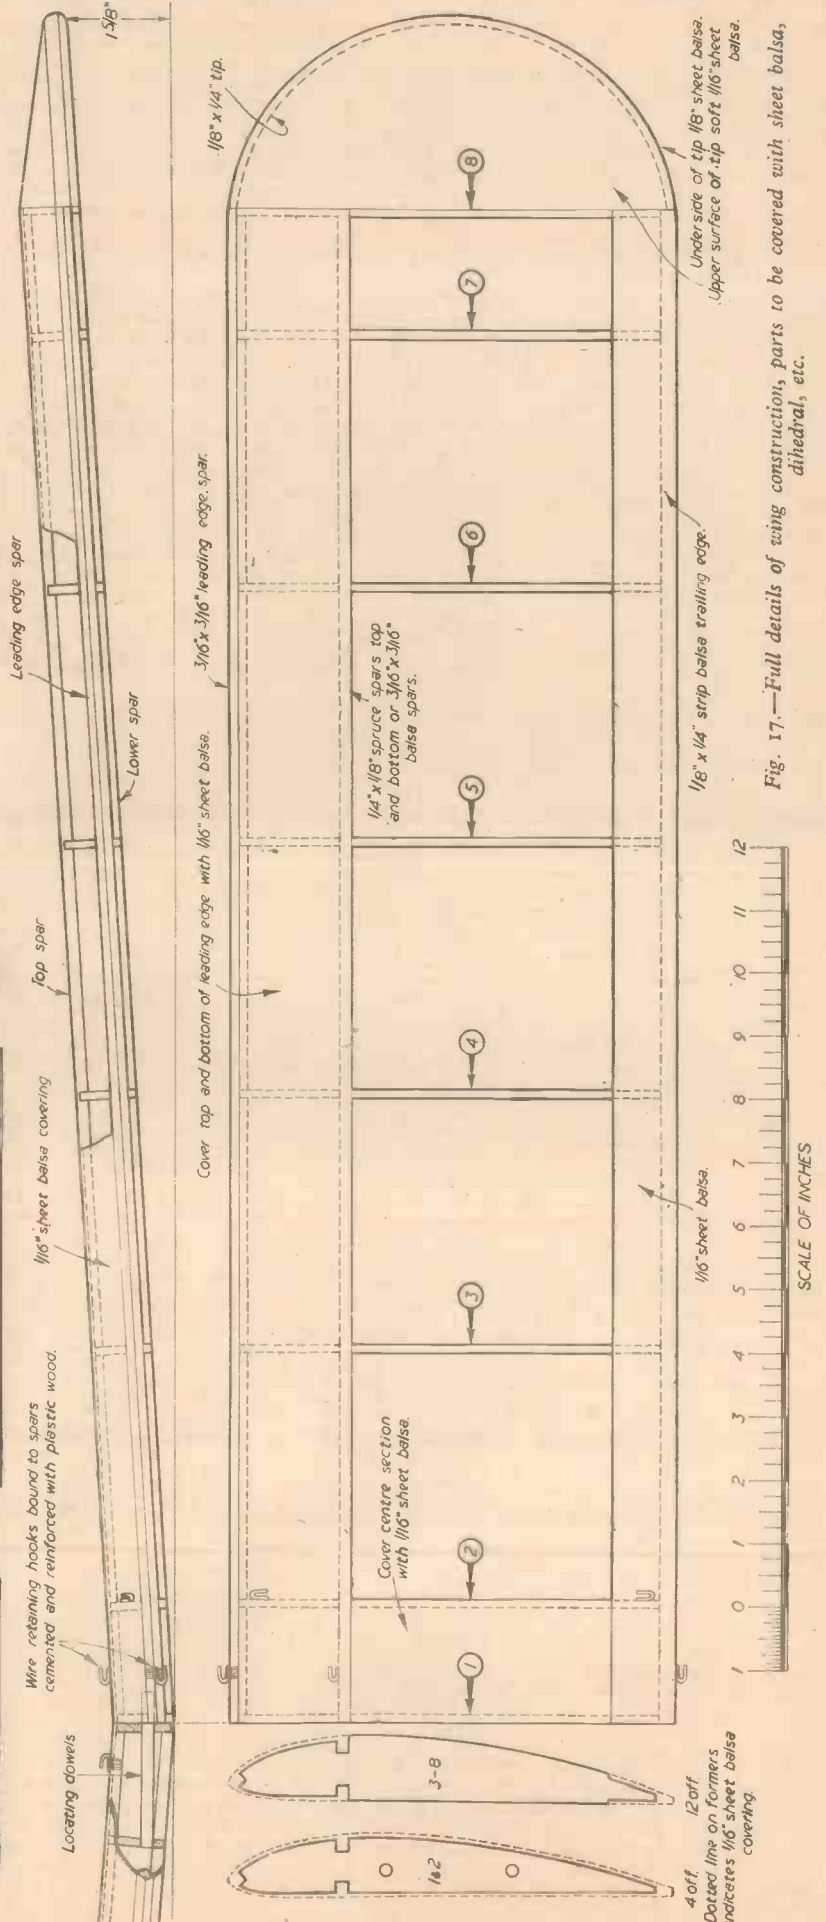

Fig. 17.—Full details of wing construction, parts to be covered with sheet balsa, dihedral, etc.
**F**IG. 12 shows how the wings are built on the full-scale plan (scaled up from Fig. 17) and covered with grease-proof paper. The tailplane is built in similar manner over the plan (scaled up from Fig.
central ribs so that the correct dihedral angle is given, with the two wing tips raised up to their correct heights. When the cement is set, cover the top of the trailing edge with soft 1/16in. sheet as shown on the plan, and then do the same with the leading edge, top and bottom back to the main spars. When set, withdraw all retaining pins and sand the whole wing smooth. Now fit wire hooks as shown in Fig. 17, using plenty of cement and plastic wood, for these hooks have to hold the wing halves together, and take all flying loads to the fuselage through their respective rubber bands. Cover the centre section with sheet balsa, after also cementing with plastic wood the two short stubby wing locating